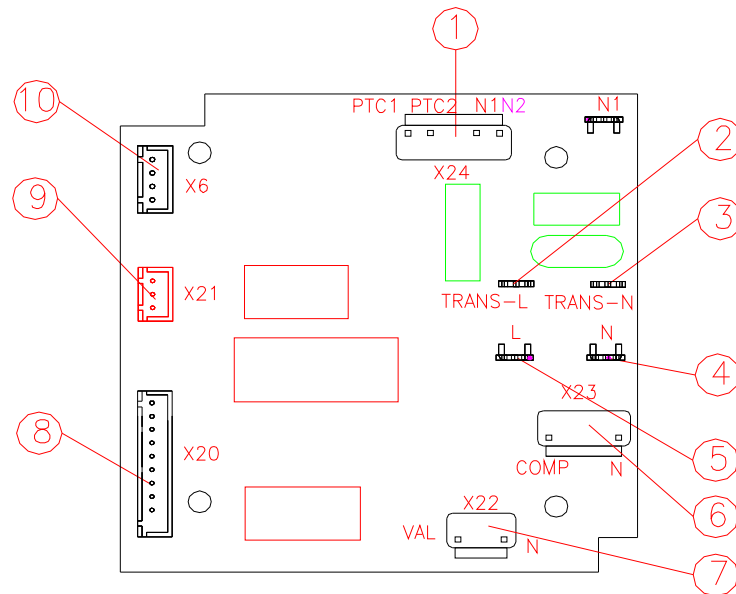

Fig. 13
○ The name and explanation of the power PCB (Fig. 13)
- 4>. Plug all the connectors; (Fig.13)